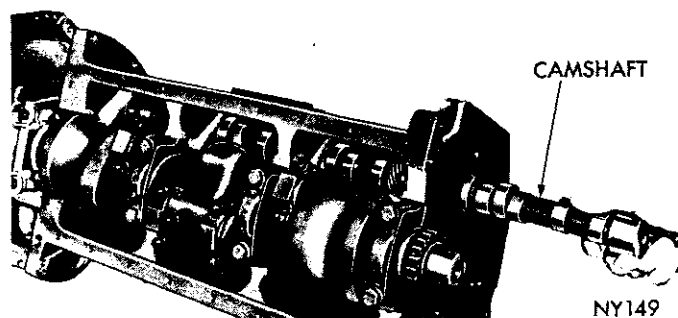

Fig. 30—Installing Camshaft
- (1) Lubricate camshaft lobes and camshaft bearing journals and insert the camshaft in cylinder block (Fig. 30).